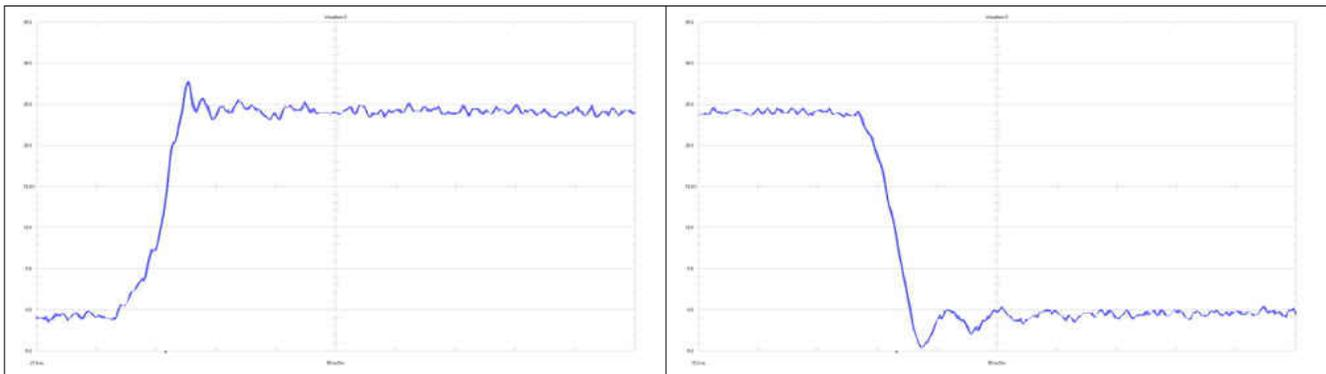

Figure A-2. Waveform at the Switch Node With 4.75-Ω Resistors Each at Rising and Falling Edge
In Figure A-2 the voltage of both the overshoot (OS) and undershoot (US) is less than 5 V_{PK}.